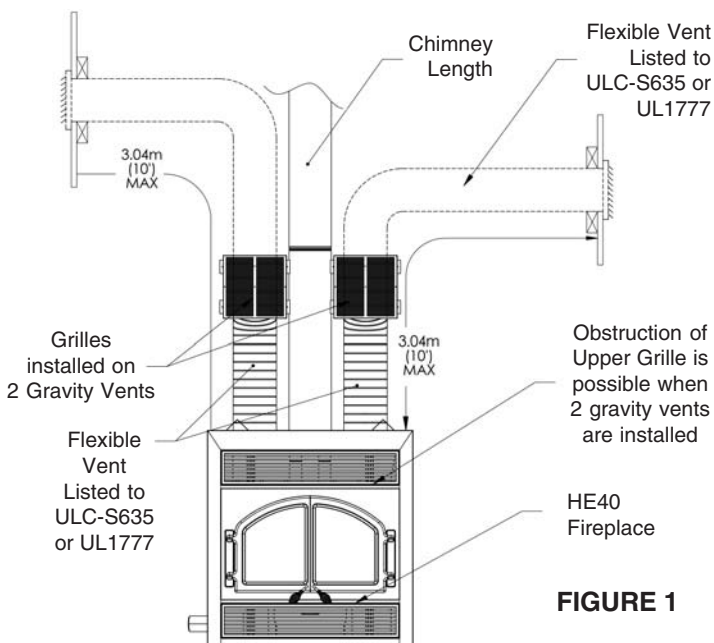

FIGURE 1
The Gravity Vent Kit can be installed with either one or two grilles located at a minimum height of 868mm (27") above the fireplace and up to a maximum of 3.04m (10') up and out from the top of the fireplace. Blocking off the upper grille is possible only when two (2) gravity vents are installed (see figure 1).